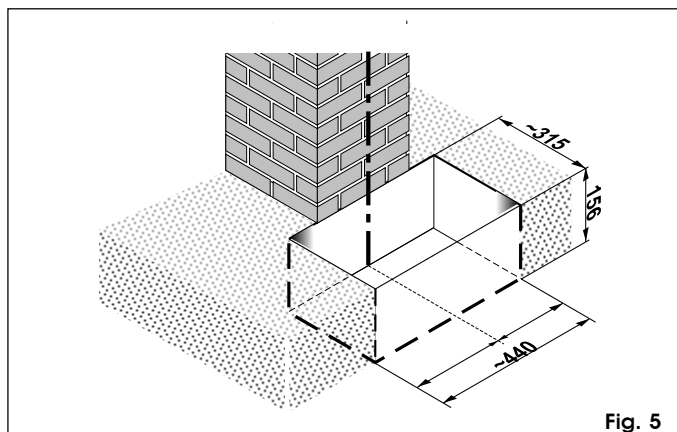

Fig. 5
1) Dig out a hole for the foundation box as shown in fig. 5.